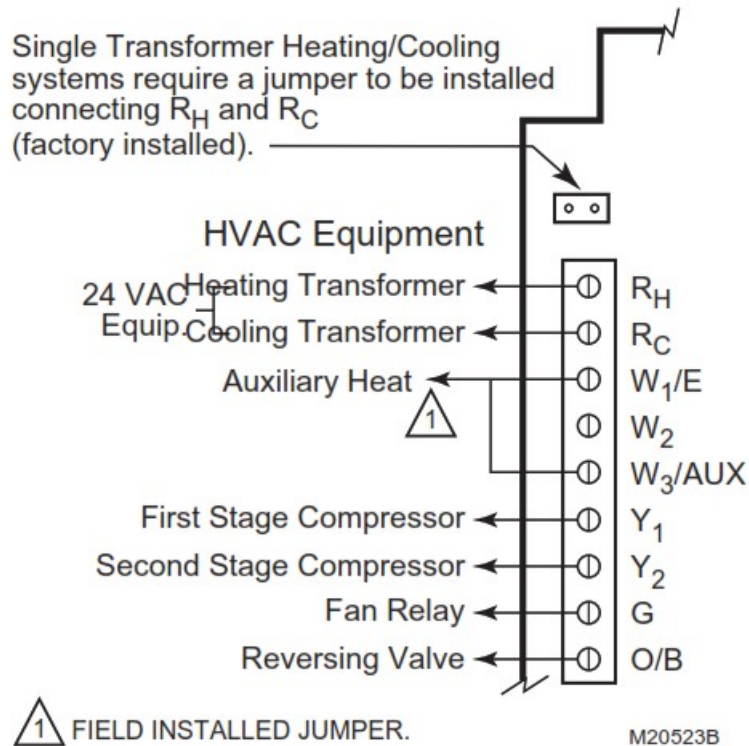

Fig. 19. Wiring two-stage heat pump with auxiliary heat.
- Wire a jumper from W3/AUX (auxiliary heat) to W1/E (emergency heat), see Fig. 19.